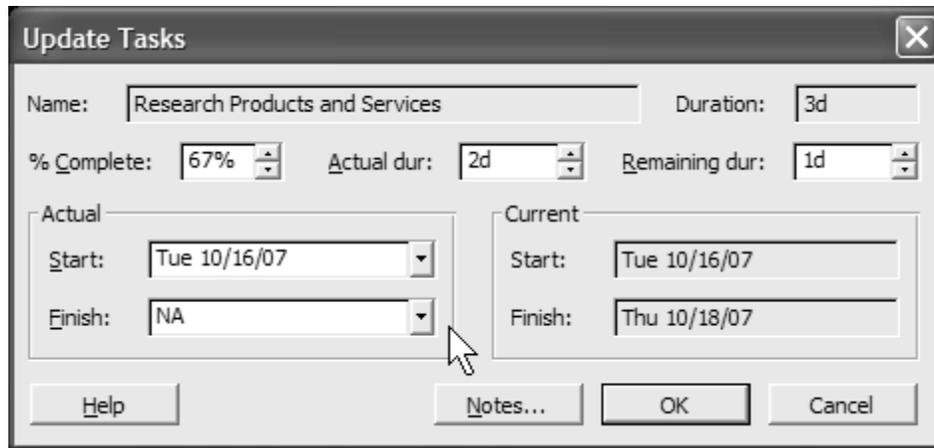

Figure 2
5. From the **Tools** menu, point to **Tracking** and select **Update Tasks**. (See Figure 2)